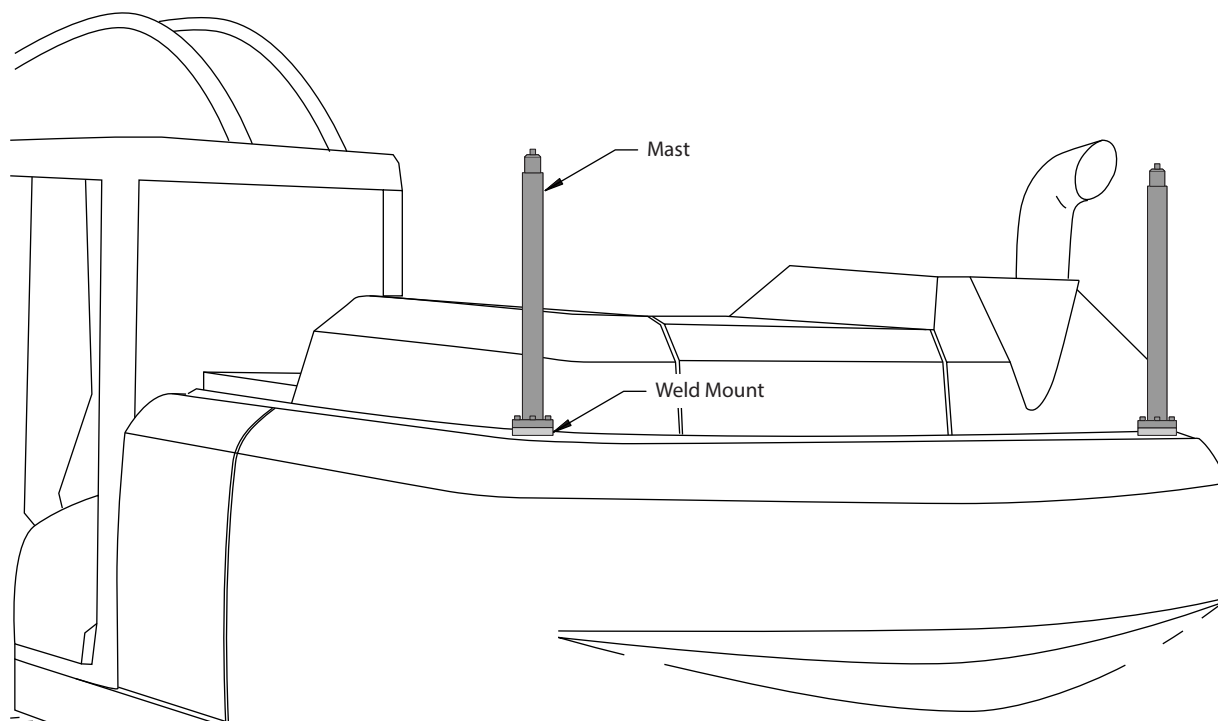

Figure 46: Antenna Pole Installed
3. Install the two antenna poles onto the weld mount using the three (3) bolts as shown in Figure 46.